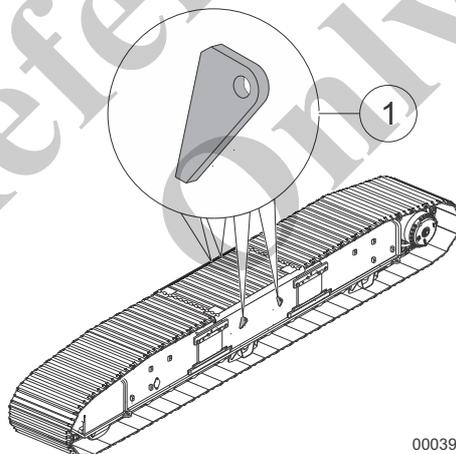

Fig. 112 Lifting points on the track wheel carrier
- 6 Attach the included lifting tackle on the load hook to the lifting points (1) in Fig. 112 of one of the track wheel carriers.